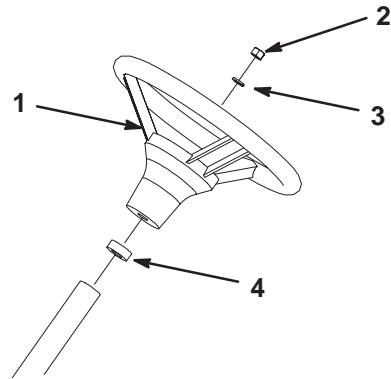

Figure 4
3. Secure the steering wheel to the shaft with the nut (Fig. 4).